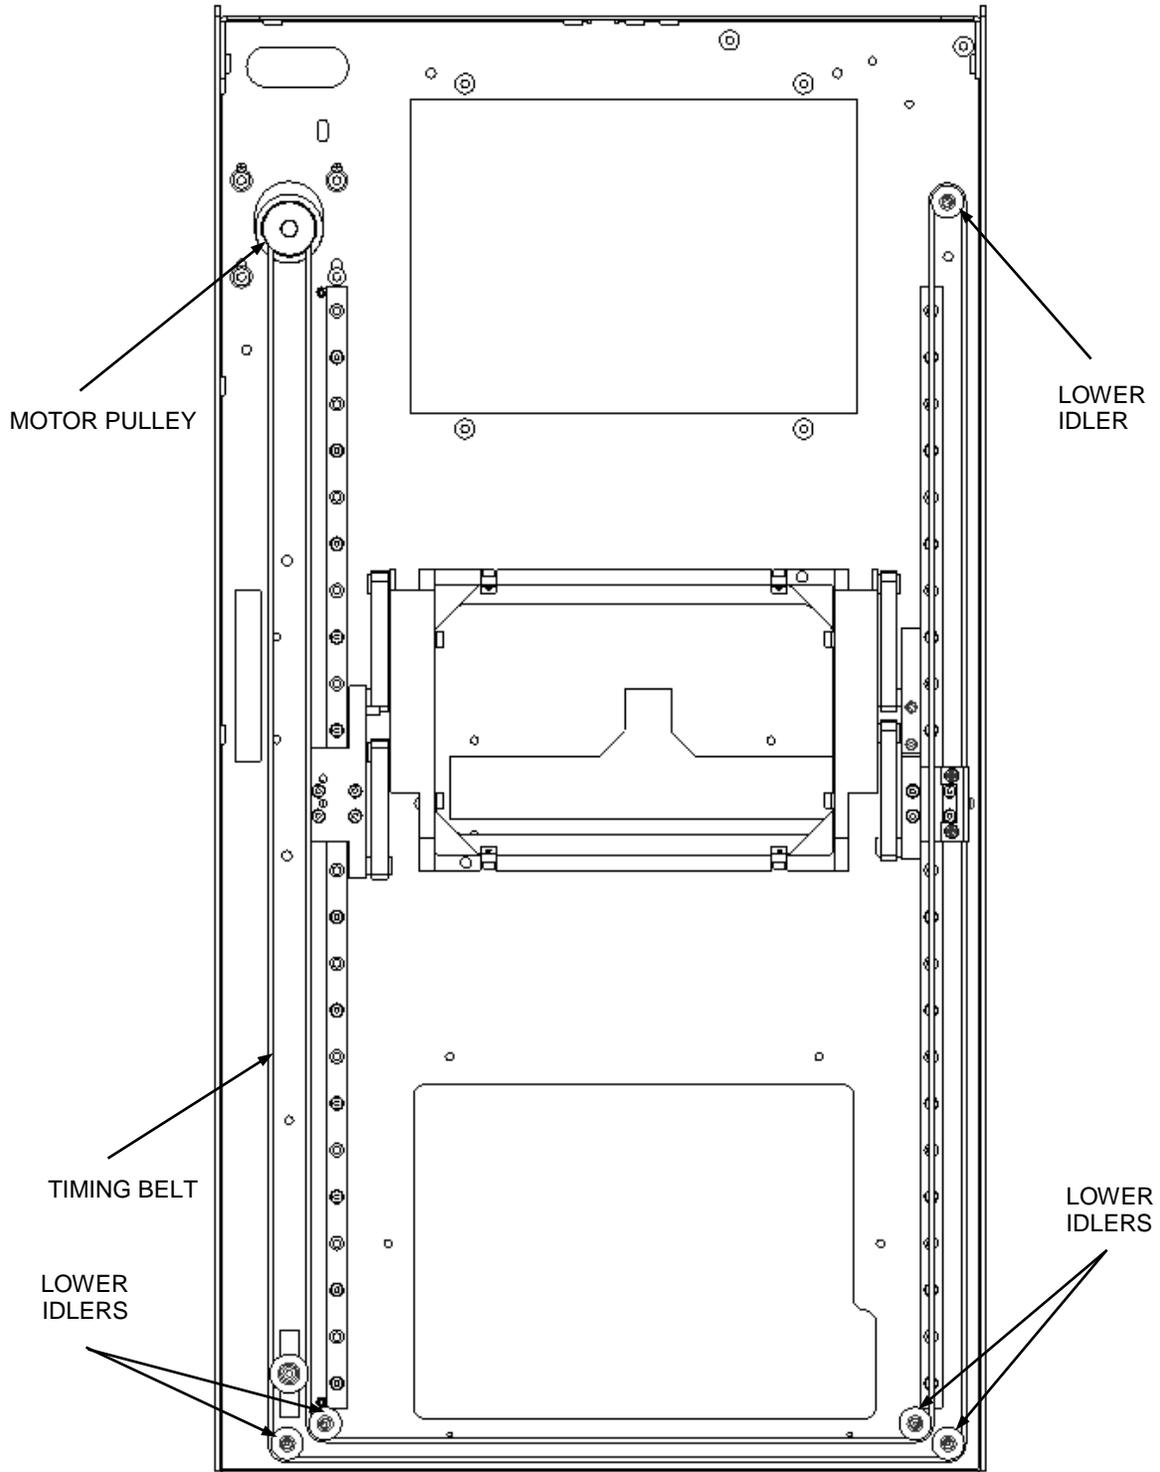

Figure 12-56: Wrapping the Belt around the Pulleys and Idlers
3. Wrap the Lower Drive Belt around the Motor Pulley and Idlers as shown in Figure 12-56.